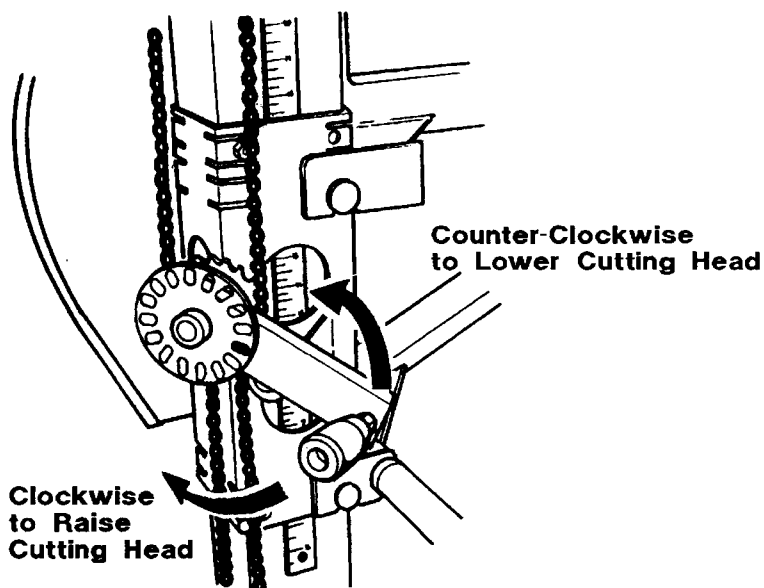

FIG 3-5
The carriage is raised and lowered by the hand crank on the front of the carriage assembly (See Figure 3-5). There are 16 holes in the face plate of the up/down crank assembly. Each hole represents an adjustment in the blade height of 1/16 of an inch. One full turn of the crank is one (1) inch.